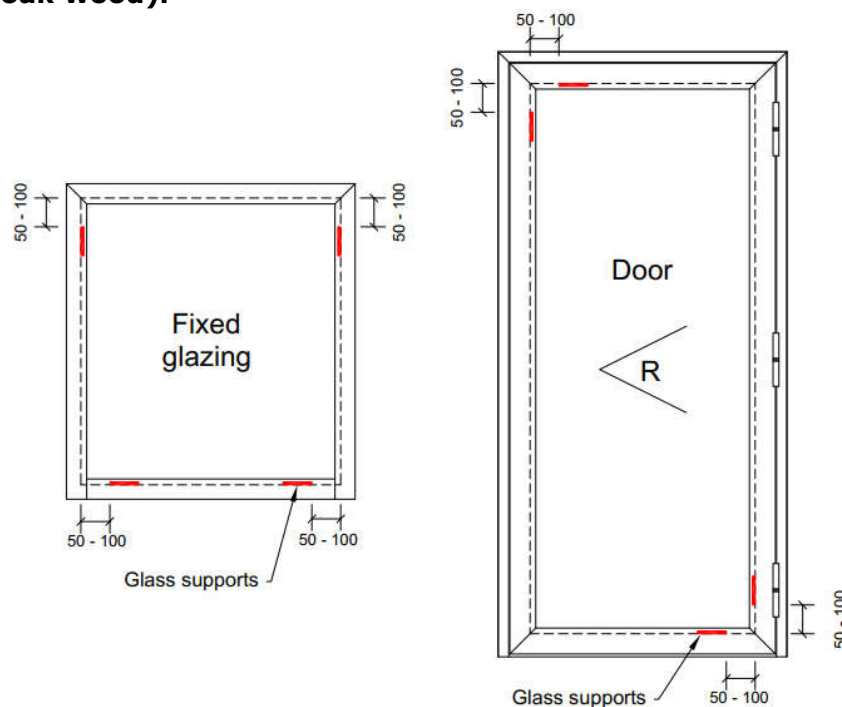

Figure 9 Glass supports locations
2. Place glass supports on to the frame (Figure 9).